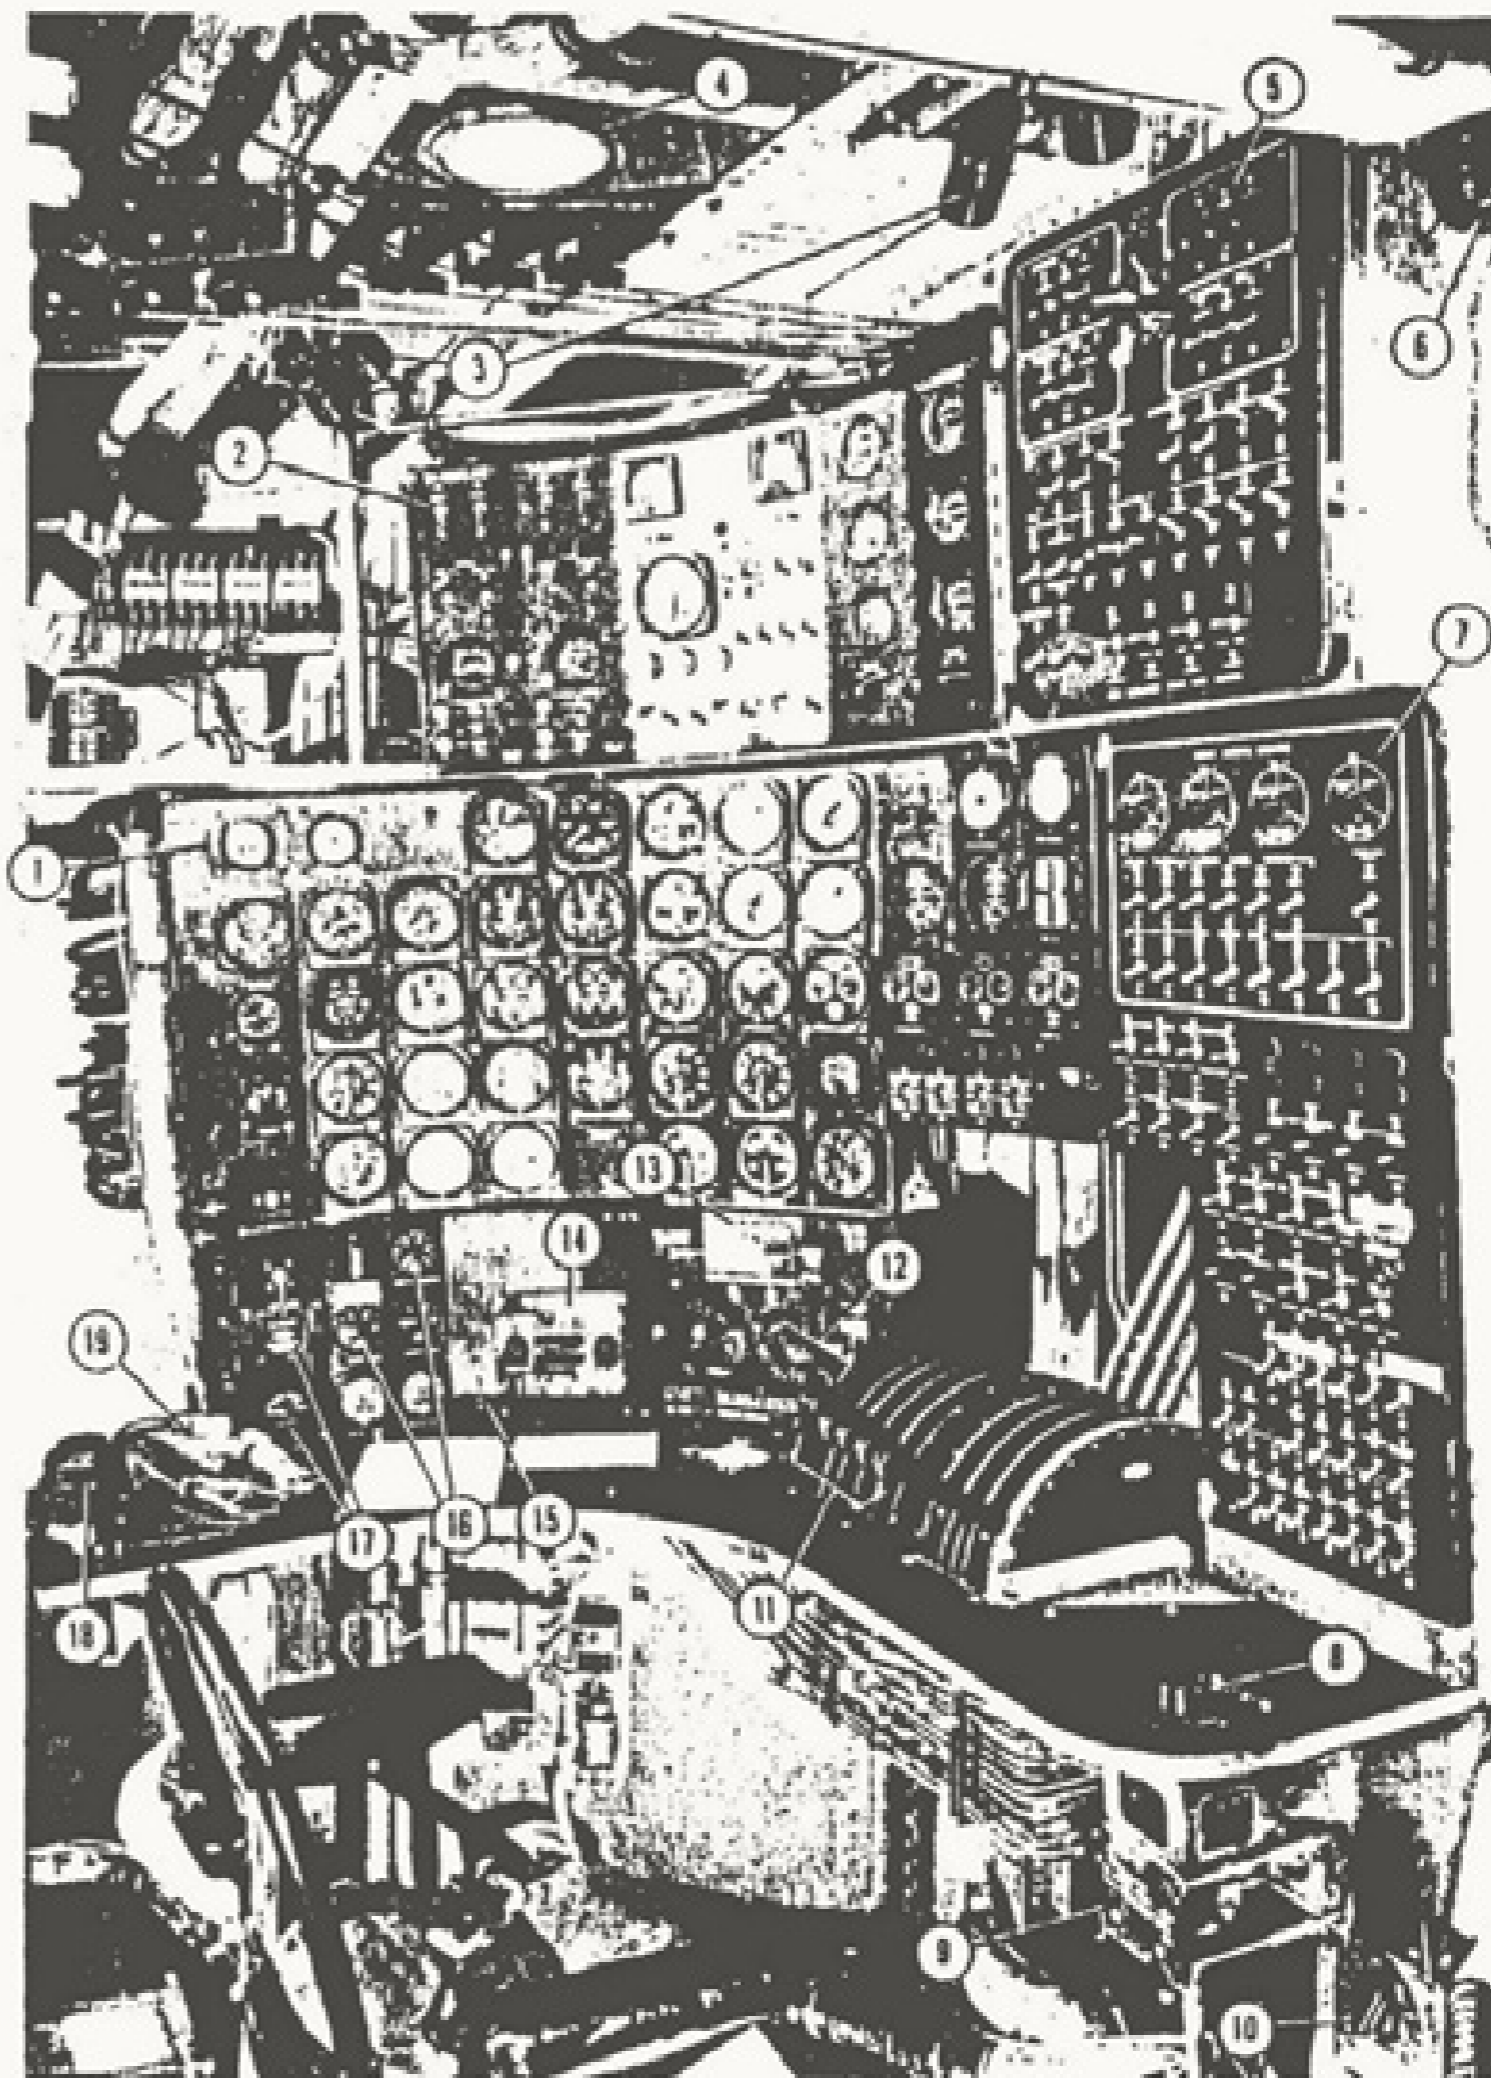
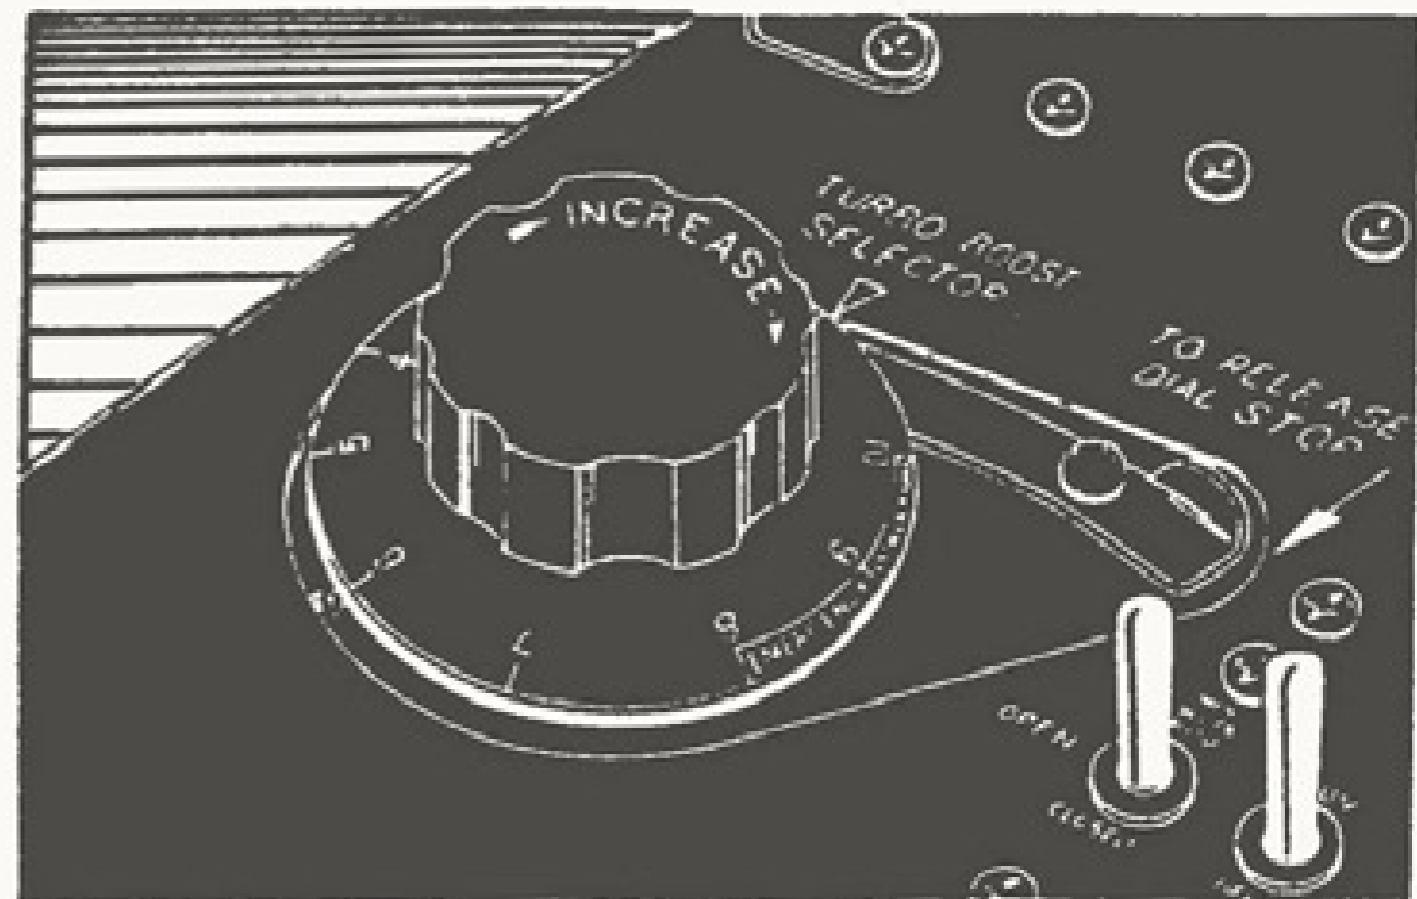

Figure 24. Engineer's Station
Figure 26. Pilot's Turbo Control
b. THROTTLE CONTROLS. (See 11, figure 6 and 12, figure 24.)- One set of throttle controls is suspended from the top of the cabin between the pilot and co-pilot and another set is mounted in a quadrant on the engineer's table. Both sets of controls are mechanically interconnected so that either the pilots or the engineer can control throttle settings.
f. TURBOSUPERCHARGER CONTROLS. (See 8 figure 24 and figure 26.)- The pilot and engineer are furnished with dial-type turbo boost selector controls which are mechanically interconnected. In this manner all turbos are synchronized to a single dial setting which may be selected by either the pilot or engineer. The turbo boost control box is located under the engineer's table and individual boost adjustments may be made by means of the four knobs on the face of the box. (See 9, figure 24.)
49. **ENGINE SECTION FIRE EXTINGUISHER SYSTEM.** (See figure 27.)- A "two shot" carbon dioxide fire extinguisher system is provided for the control of fires occurring in the engine sections, including the areas around the turbo-superchargers and the propeller gear boxes. The fire control panel (See 13, figure 24) is located immediately below the engineer's instrument panel. Four indicator lights, a fire zone selector switch, and a double throw discharge switch are located on the panel. A fire will illuminate a respective indicator light to which the selector switch must be turned to before using the discharge switch. For a first fire the discharge switch must be
51. **AUXILIARY POWER UNIT FIRE EXTINGUISHER SYSTEM.**- A carbon dioxide fire extinguishing system is provided for each A.P.U. A double-throw switch and two detector lights are installed on a panel beneath the engineer's instrument panel. (See 14, figure 24.) Holding the discharge switch in the direction of the lighted lamp will release a Co₂ charge to the affected unit.
(4) Interphone- Check.	(4) Interphone- Check.	(4) Interphone- Check.
(5) GROUND CREW INTERPHONE switch- "ON." (See Section I, figure 24.)
(6) Instruct ground crew to close entrance hatch and check lower escape hatch.		(6) External power (if used)- Notify ground crew.
(7) Mixture controls- "IDLE CUT-OFF."
(8) Instruments- Check condition.	(8) Instruments- Check condition.	(8) Instruments- Check condition.
ing procedure. (See Section I, figure 24.)